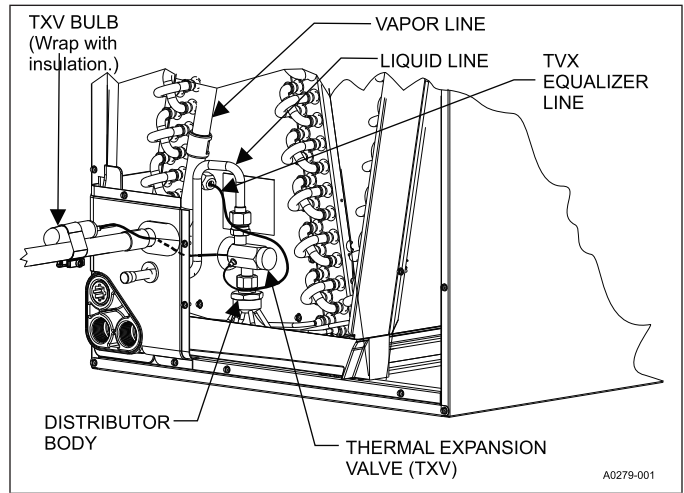

FIGURE 11: TXV Bulb Installation
- Install the TXV bulb to the vapor line near the cabinet, using the bulb clamp(s) furnished with the TXV assembly. Ensure the bulb is making maximum contact. See Figures 11 and 12, and accomplish the following: